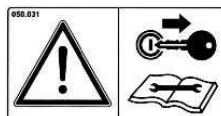
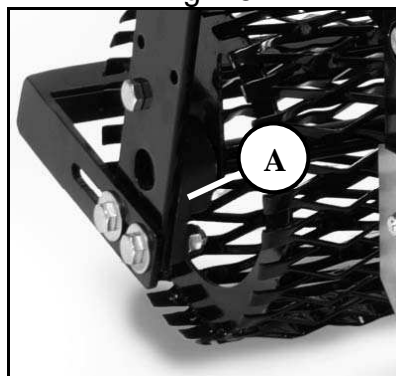

Fig. 15
Fig. 17
3. Check the level of the lubricant oil in the gear-box (only in the models **MTZ 135-150-170-190**) through the transparent cap put on gear box side (Fig. 15 – Ref. A); the quantity of oil is enough if it is visible through the cap. If you need to fill oil up, use the cap put on the upper part of the gear box (Fig. 15 – Ref. B).
2. Check the grease level in the tank using the specially provided cap (Fig. 17 – Ref. A); this must be made when the machine has worked for several minutes.
4. Check the lubricant level in the main machine body (Fig. 17-Ref. A) and in the gear box (Fig. 15 Ref. A and B).